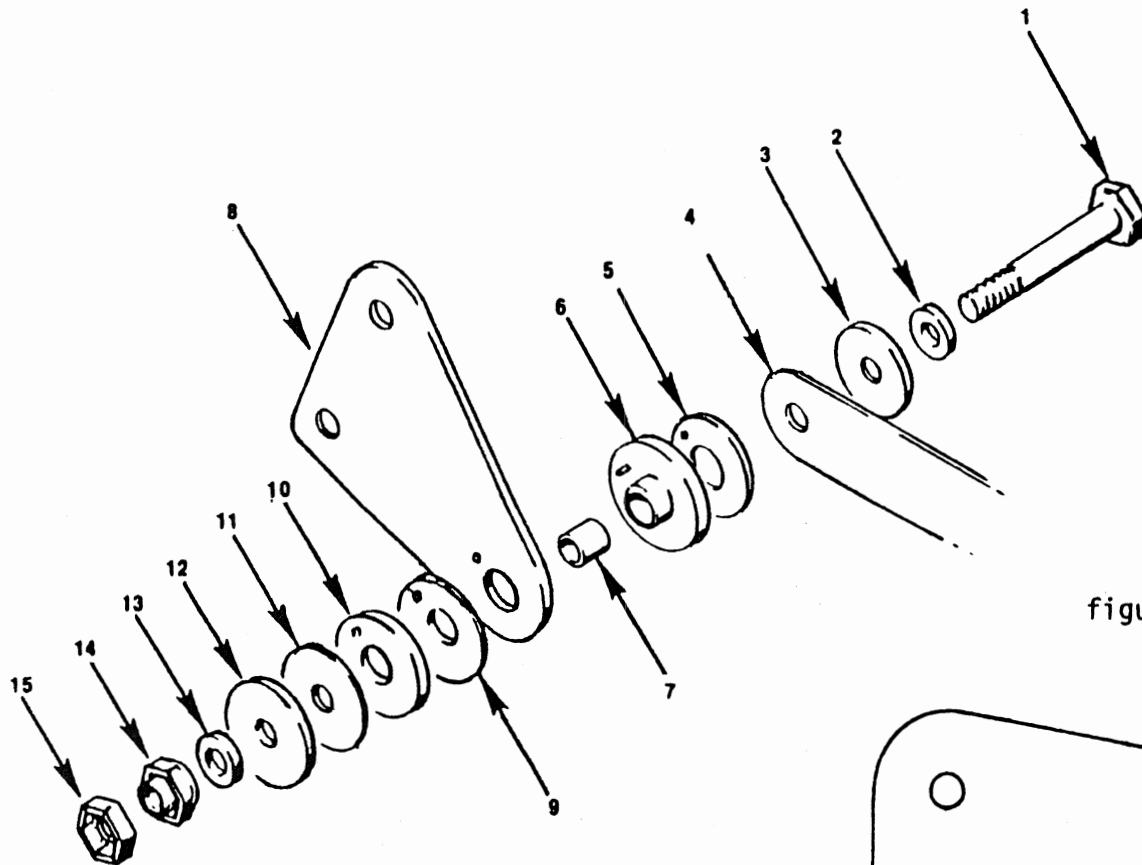

figure 1
9. Carefully disassemble and reassemble the damper per the following steps for the A041-2 clip replacement (see fig. 1).
- a) Remove items 9 thru 15 in figure 1.
- c) Reinstall items 9 thru 15.